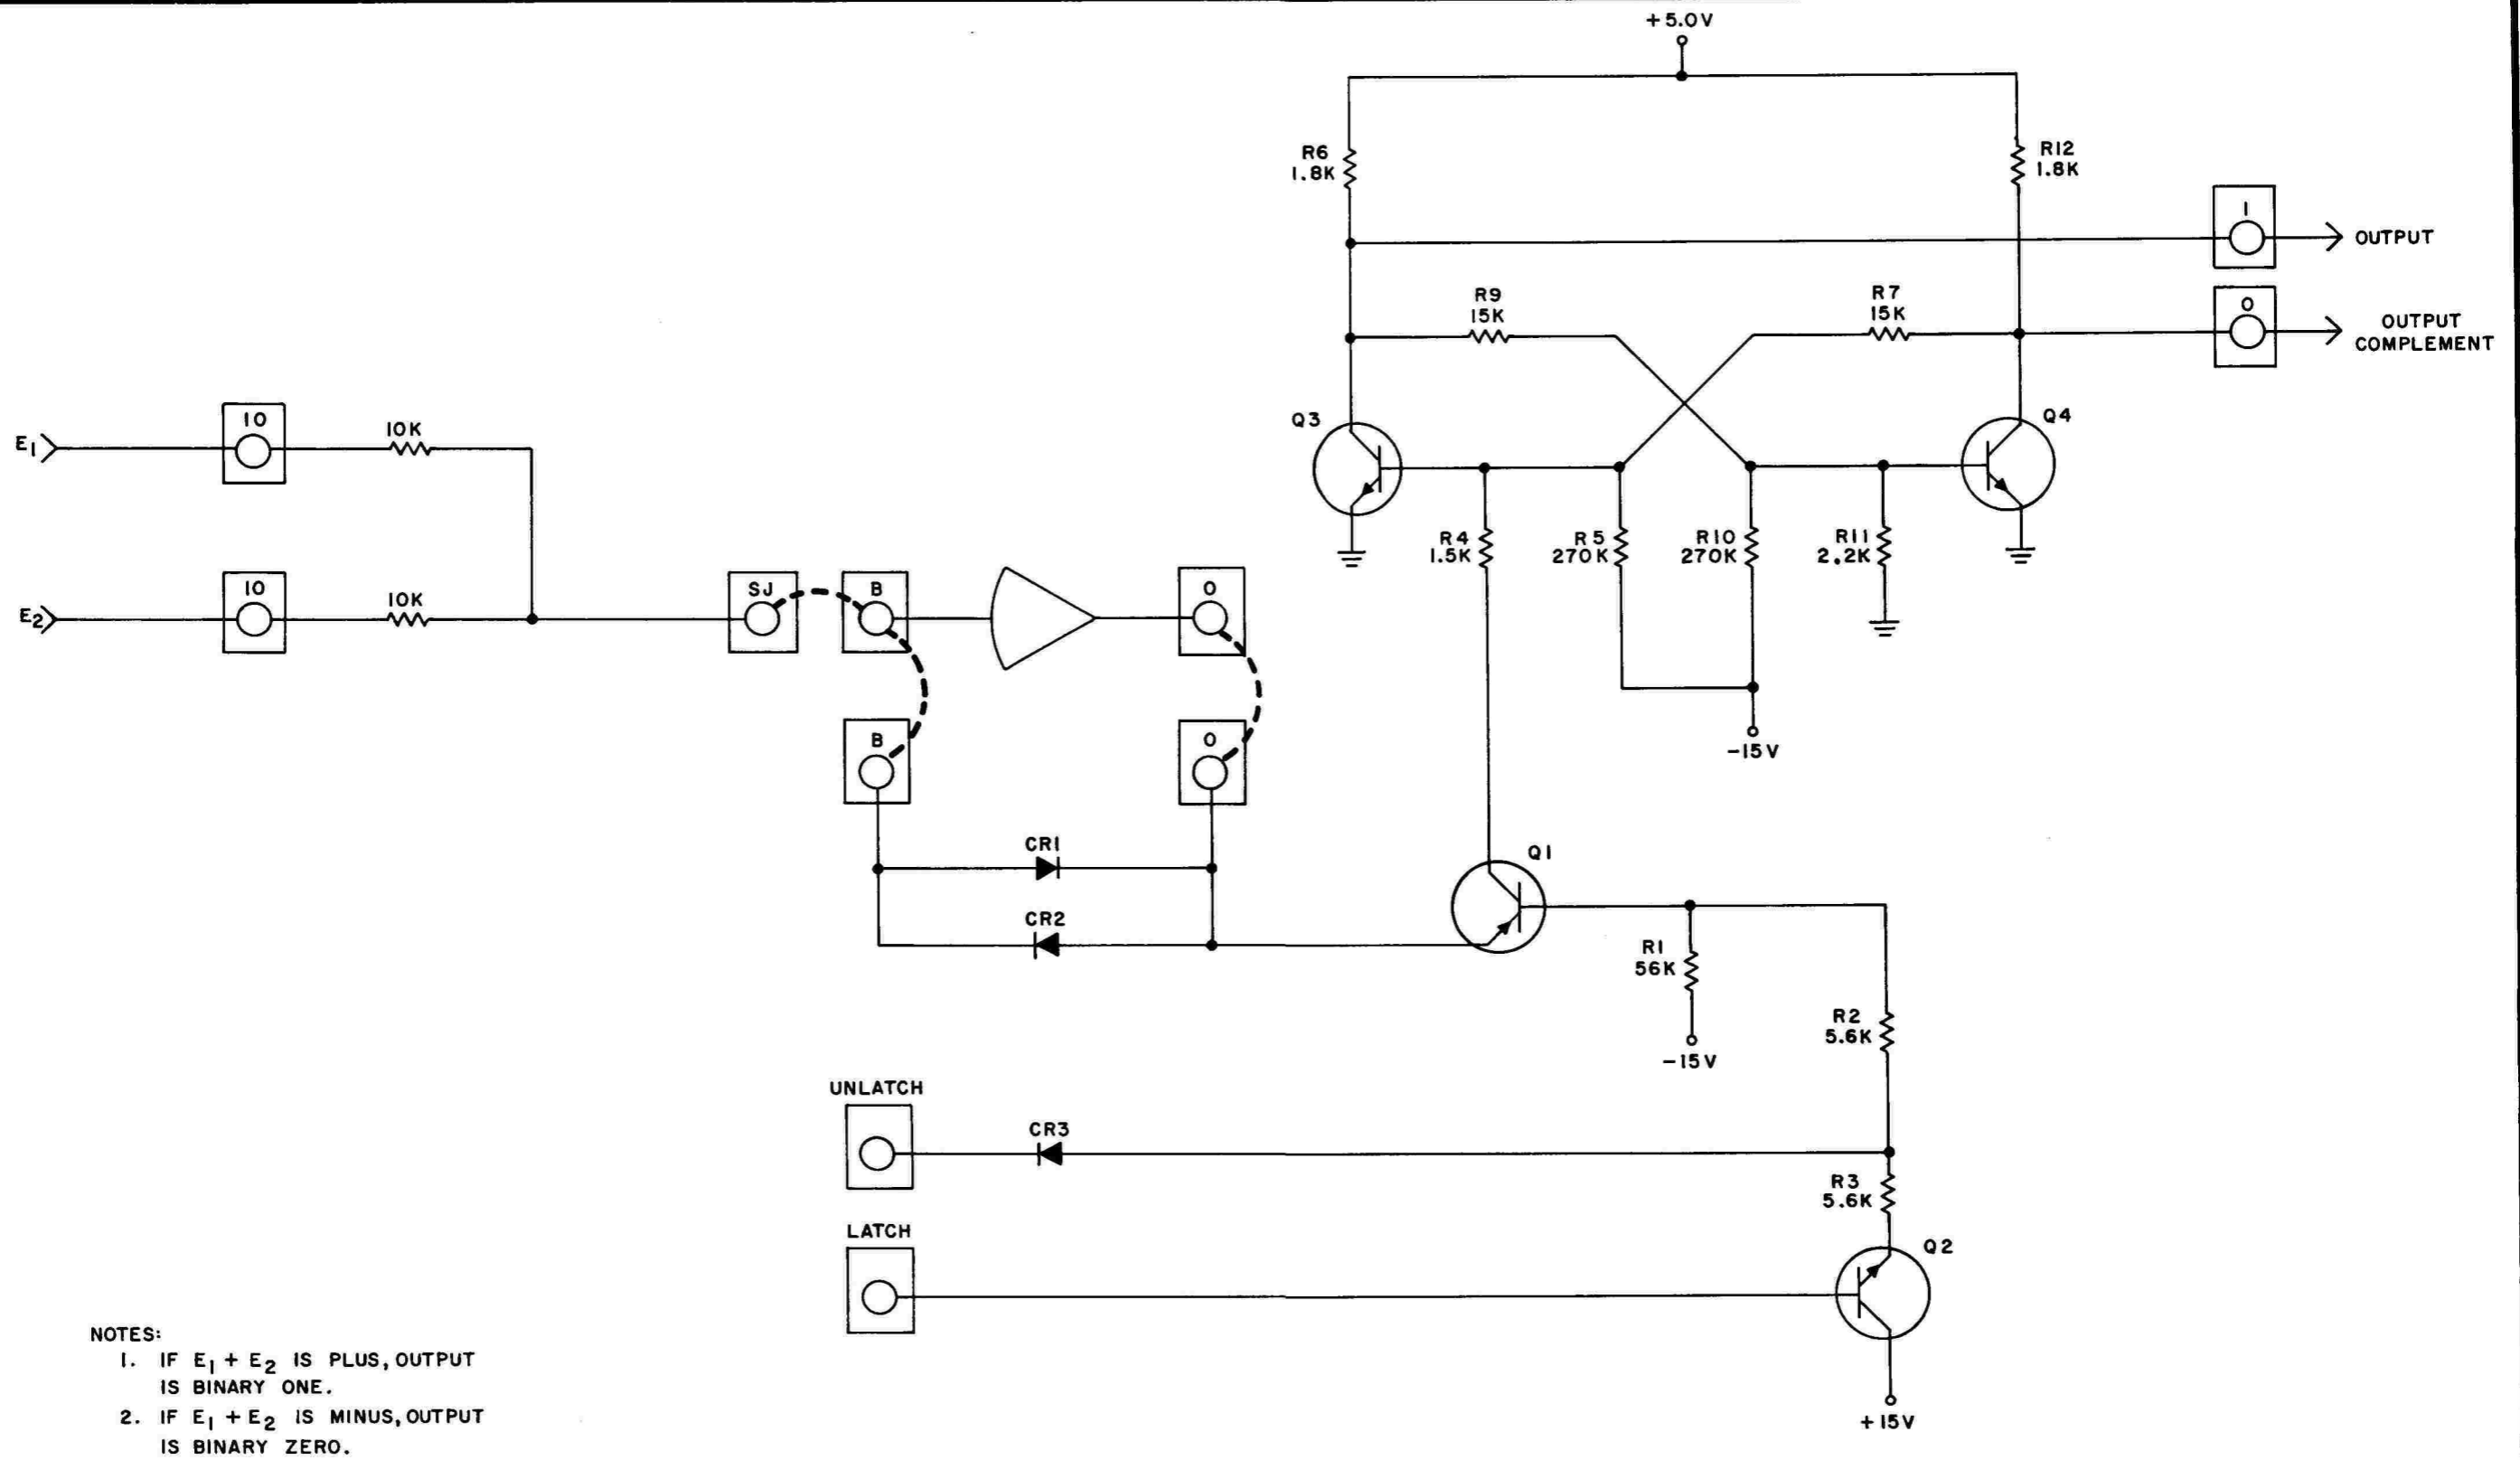

Figure 47.
Refer to Figure 47 for the following description.
(1) The Electronic Comparator. The comparator circuit consists of transistors Q1 through Q4 and associated components shown on the simplified schematic, Figure 47. The external dc amplifier is shown, shunted by diodes CR1 and CR2, in the emitter circuit of Q1. Since the summing junction of an operational amplifier is held at virtual ground by circuits within the amplifier (see Chapter II), the output of the amplifier may not exceed approximately ± 0.6 volt. This voltage is coupled to the emitter of buffer transistor Q1 which is normally forward biased by resistor R1, so that the negative change that occurs when the sum of the amplifier inputs goes positive is coupled through Q1 and resistor R4 to the base of Q3. Transistors Q3 and Q4 form a flip-flop circuit. A negative change at the base of Q3 causes this transistor (NPN) to cut off, and its collector goes positive. The positive from the collector of Q3 is coupled through resistor R9 to the base of Q4, causing this stage to conduct. As Q4 conducts, its collector potential changes from a positive level to ground. This change is coupled back to the base of Q3 through resistor R7, causing this stage to remain cut off. The collectors of Q3 and Q4 are directly connected to the terminals designated 1 and 0 respectively. Therefore, when Q3 is cut off, the 1 terminal has a potential of +5 volts and the 0 terminal is at ground.